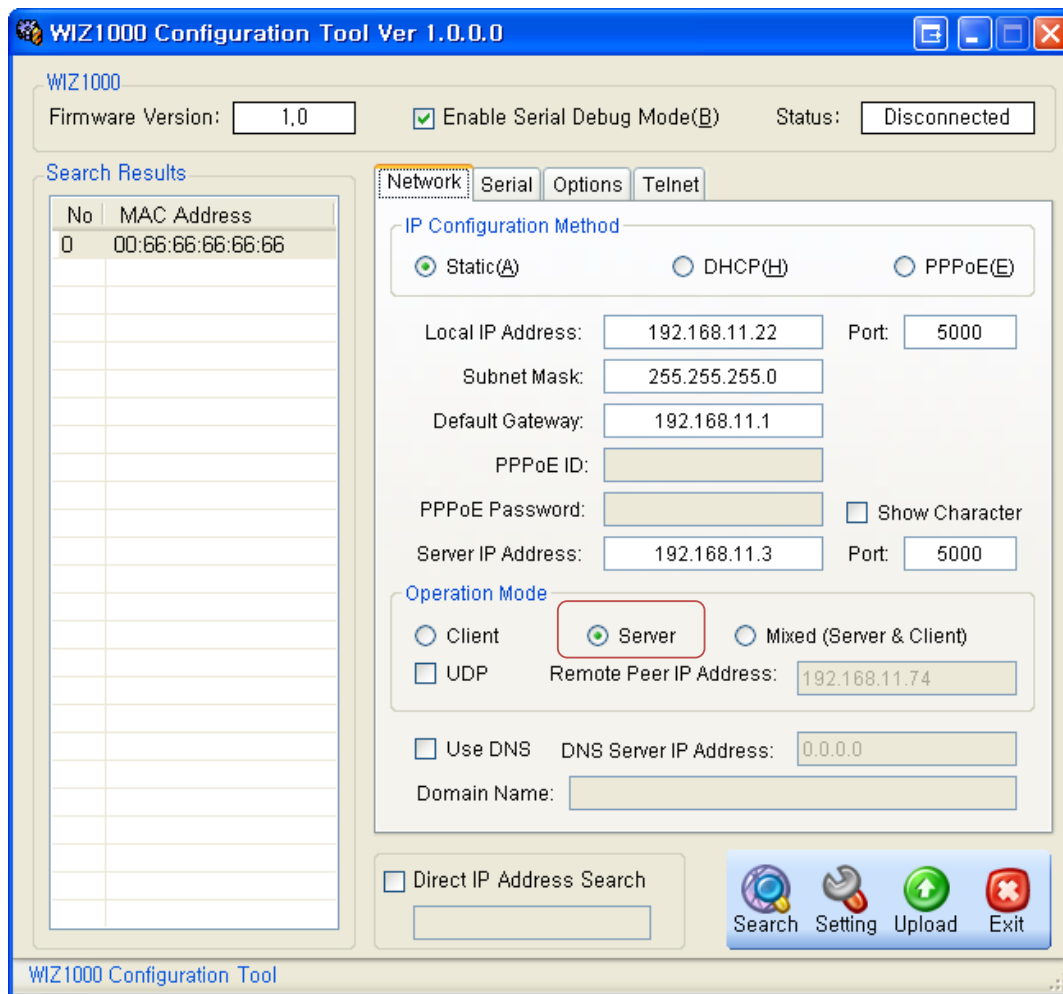

Figure 10. Option Mode for Password Configuration
- ③ Select a module shown in "Board list", and click "Upload" button.
- 👉 Before uploading through Ethernet, you should set the network information of WIZ1000 first by Configuration Tool program as shown above Fig 10. By using Ping test,**
- ④ When the window as shown below Figure is displayed, select file for upload and click “Open” button.